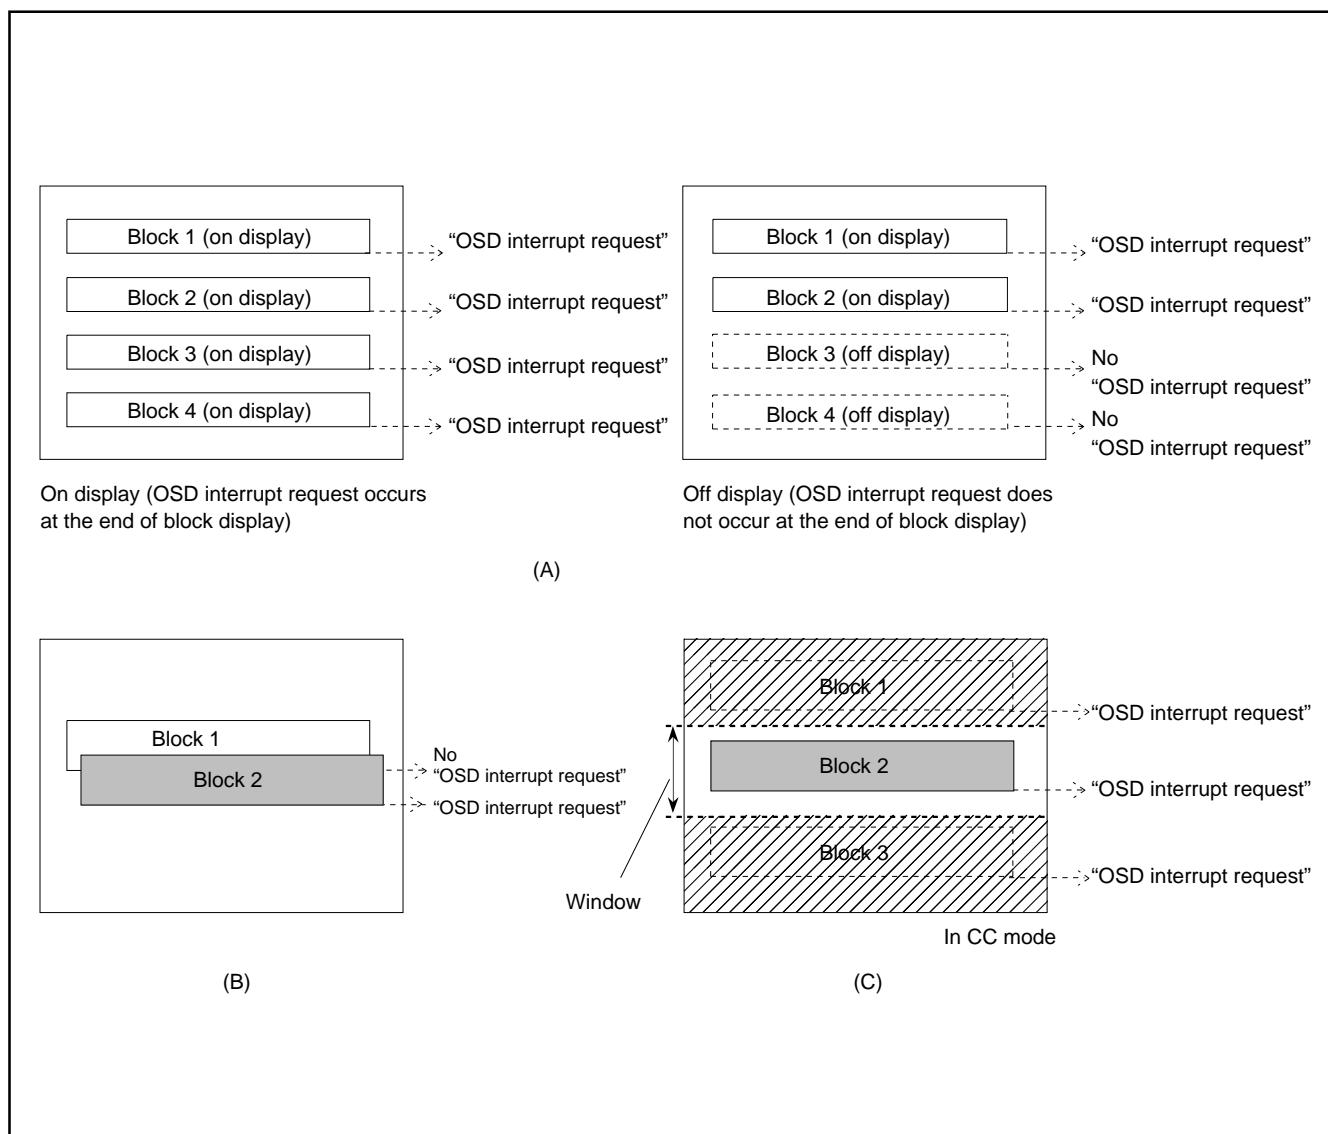

Fig. 78. Note on occurrence of OSD interrupt
Notes 1: An OSD interrupt does not occur at the end of display when the block is not displayed. In other words, if a block is set to off display by the display control bit of the block control register (addresses 00D016 to 00DF16), an OSD interrupt request does not occur (refer to Figure 78 (A)).
2: When another block display appears while one block is displayed, an OSD interrupt request occurs only once at the end of the another block display (refer to Figure 78 (B)).
3: On the screen setting window, an OSD interrupt occurs even at the end of the CC mode block (off display) out of window (refer to Figure 78 (C)).